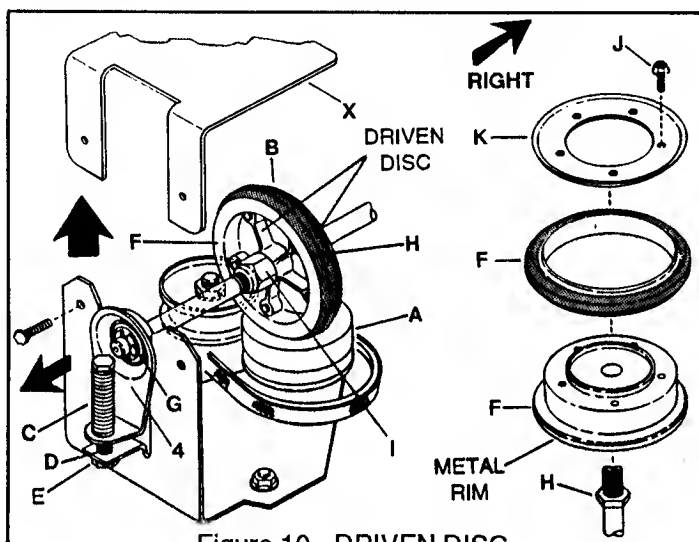

Figure 10 - DRIVEN DISC
If self-propelled mower (ODP model) does not pull properly, refer to Fig. 10 and check for the following:
1. Remove guard (X). Hold hex-nut (E) while turning spring (C)'s retaining bolt (D) COUNTER-CLOCK-WISE - remove these components.
2. Remove E-ring (G) from the LEFT end of the drive shaft and slide bearing holder assembly (4) off shaft.
3. Hold the drive shaft hex-nut (H) (on RIGHT side of hub F) with a 3/4" wrench while removing the 1/2" hex locknut (I) (on LEFT side of hub F).
4. Slide driven disc hub (F) to the LEFT and off shaft.
5. Remove the five machine screws (J), and remove retaining plate (K). Replace the worn rubber ring (B) as shown in Figure 10.